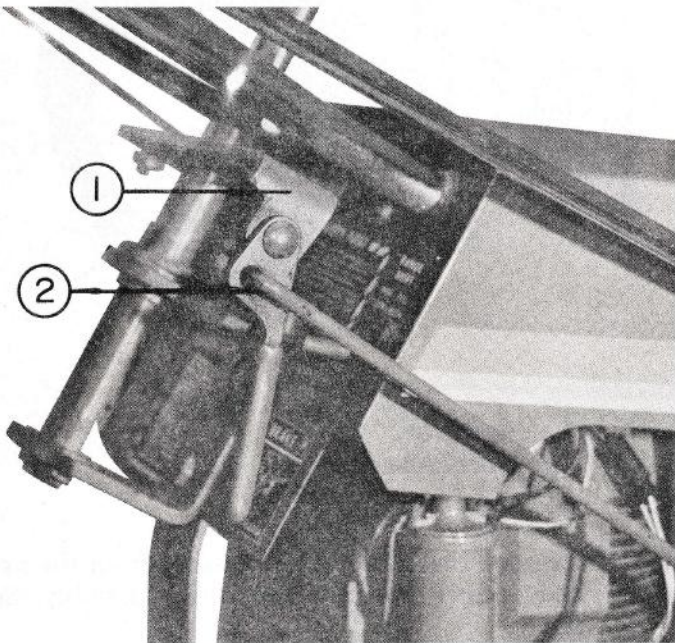

Fig. 5
- Insert the end of the brake rod into the hole in the parking brake handle. See fig. 5.